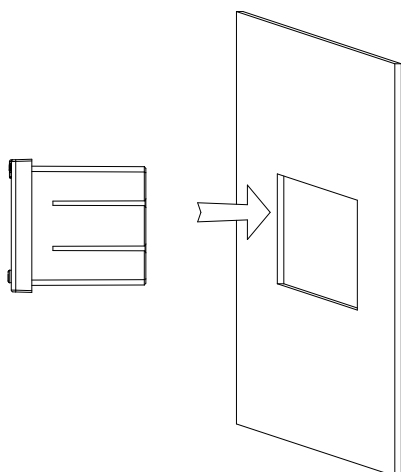

Figure 5
- 3) The instrument is mounted from the Front to the mounting hole, as shown in figure 5